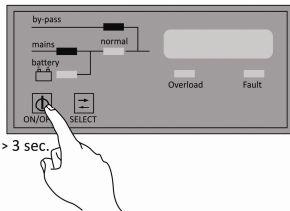
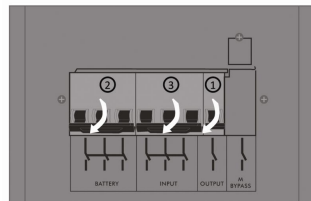
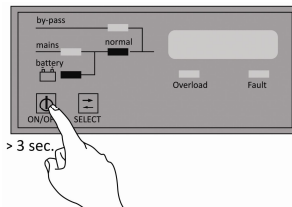

Figure 3.11
Figure 3.12
Figure 3.13
2. **If the UPS is in Bypass Mode:** Press and hold the *ON/OFF* button until the warning beep silences (Figure 3.11). Observe that the display is fully switched off. Switch off the output, the battery, and the input CBs in respective order (Figure 3.12).
3. **If the UPS is in Battery Mode:** Press and hold the *ON/OFF* button until warning beep silences (Figure 3.13). Observe that the display is fully switched off. Switch off the output, battery, and input CBs in respective order (Figure 3.12).